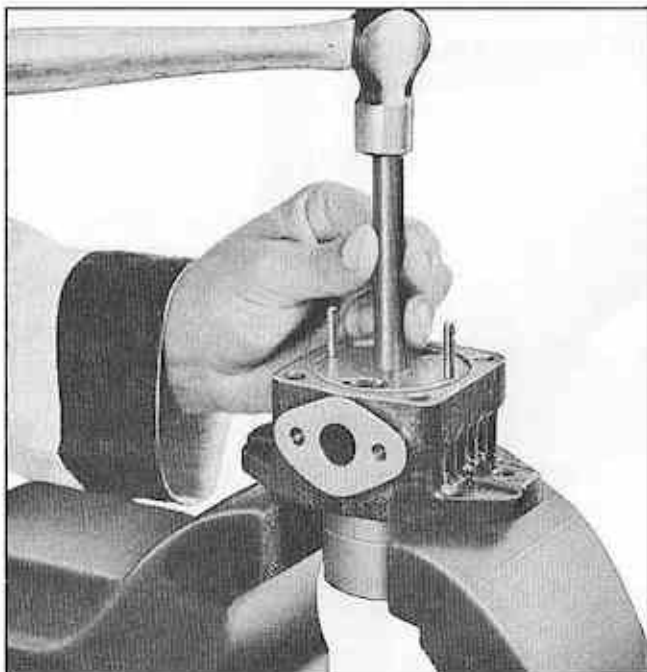

Fig. 104 Removing Inner Needle Bearing from Pump Body
16. Remove inner needle bearing from pump body using tool J-6279 (Fig. 104).